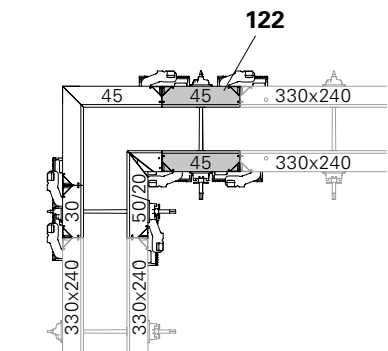

Fig. C1.08
Max. panel width between corner and subsequent panel is 45 cm – Panel MX 330 x 45 (102). (Fig. C1.08)